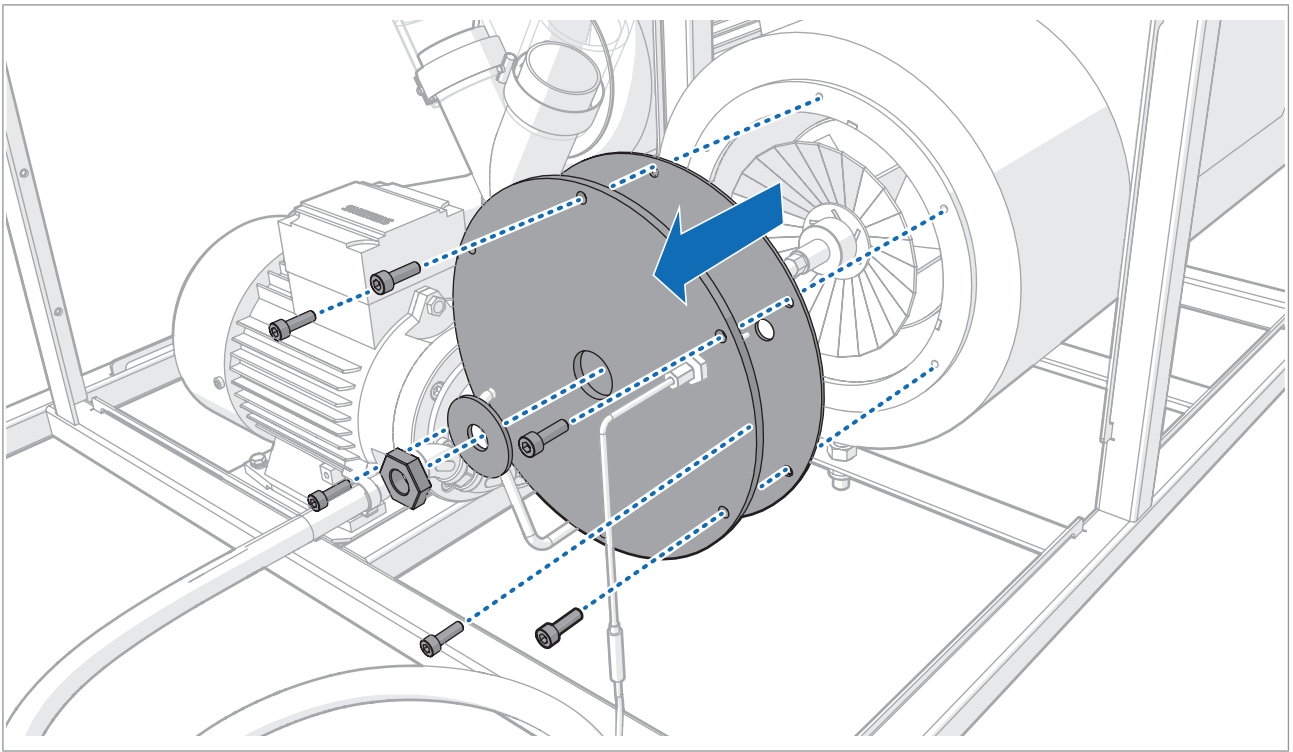

Figure 6 Remove back plate with heat gasket
2. Remove the back plate with heat seal from the machine (see figure 6).